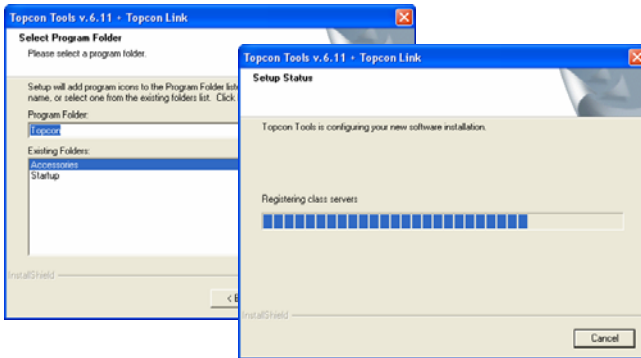

Figure 1-2. Select Program Folder and Installation Progress
- If desired, type a new folder in which to add program icons. Then click **Next** (Figure 1-2).
Topcon Tools is installed on the computer (Figure 1-2)